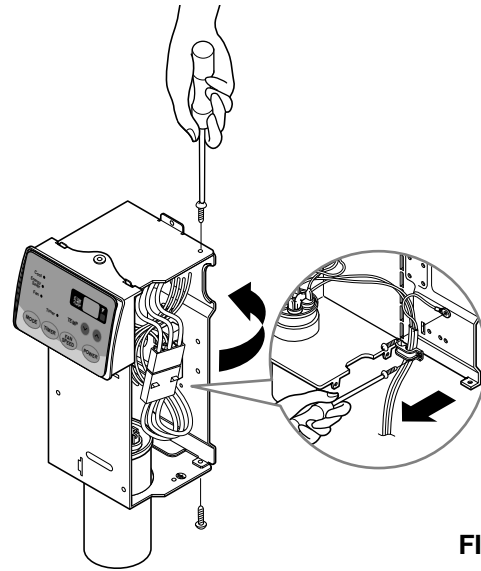

FIG. 13
6. Pull the power cord. (See Fig. 13)